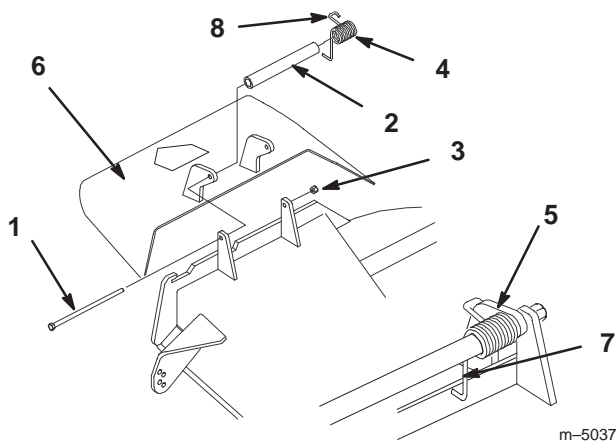

Figure 71
1. Remove the locknut, bolt, spring and spacer holding the deflector to the pivot brackets (Fig. 71). Remove damaged or worn grass deflector.
- Note:** Make sure the L end of spring is installed behind deck edge before installing the bolt as shown in figure 71.
3. Install bolt and nut. Place J hook end of spring around grass deflector (Fig. 71).